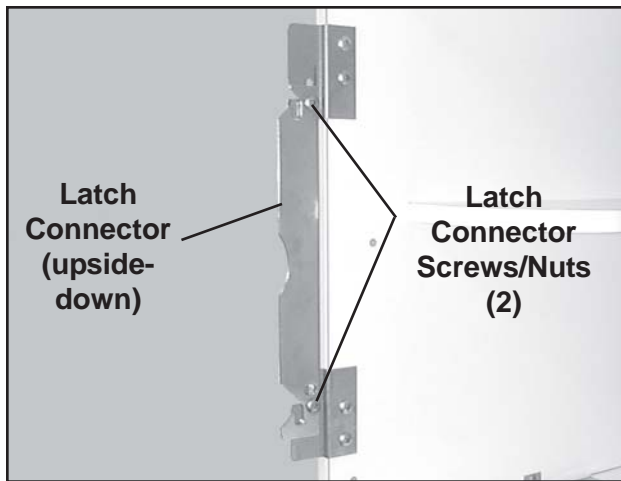

Figure 29. Latch Connector Mounted on Opposite Side
9. Invert the latch connector assembly, and mount it to the positions formerly occupied by the door hinges (Figure 29).
10. With a Phillips screwdriver and a 7/16 in. wrench, remove the two screws that hold the latch connector to the latch connector brackets (Figure 29), and remove the latch connector.